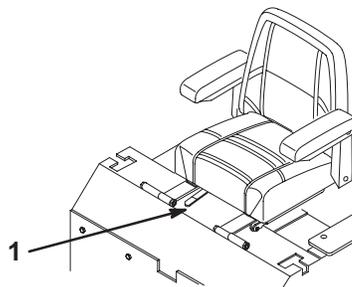

Figure 19
- To adjust, move the lever sideways to unlock the seat (Fig. 19).